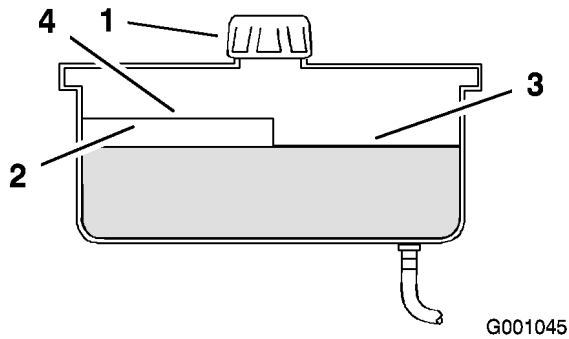

Figure 59
2. Clean the area around filler neck of hydraulic tank (Figure 59).
3. Remove the cap from the filler neck. Look inside to check if there is fluid in the reservoir (Figure 59).
Note: The fluid level should be to the top of the hot level of the baffle, when the fluid is hot (Figure 59).